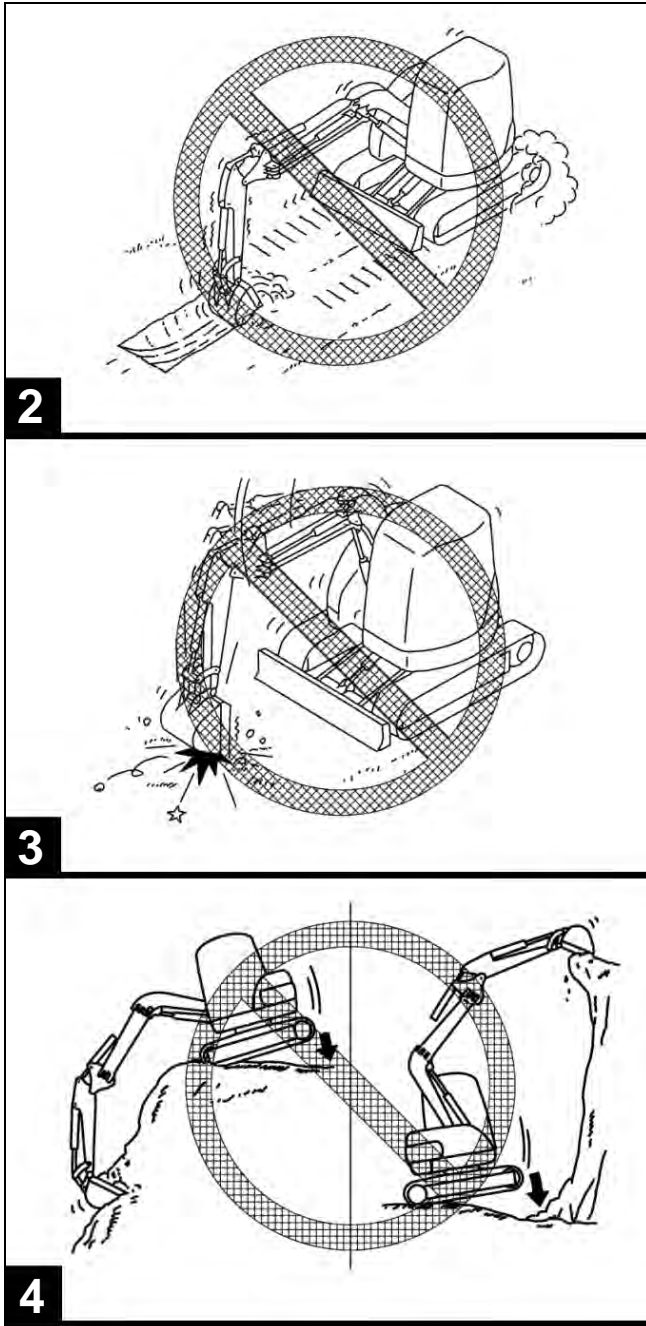

Figure 3-47 Machine Operation Exclusions
- Do not lower the bucket into the ground while rotating the upper carriage or driving the excavator (2, Figure 3-47).
- Do not use the falling force of the dipper arm so the bucket serves as a hammer or pile-driver (3).
- Do not cause the excavator to tip, bounce or fall to amplify digging or excavating (4) force.